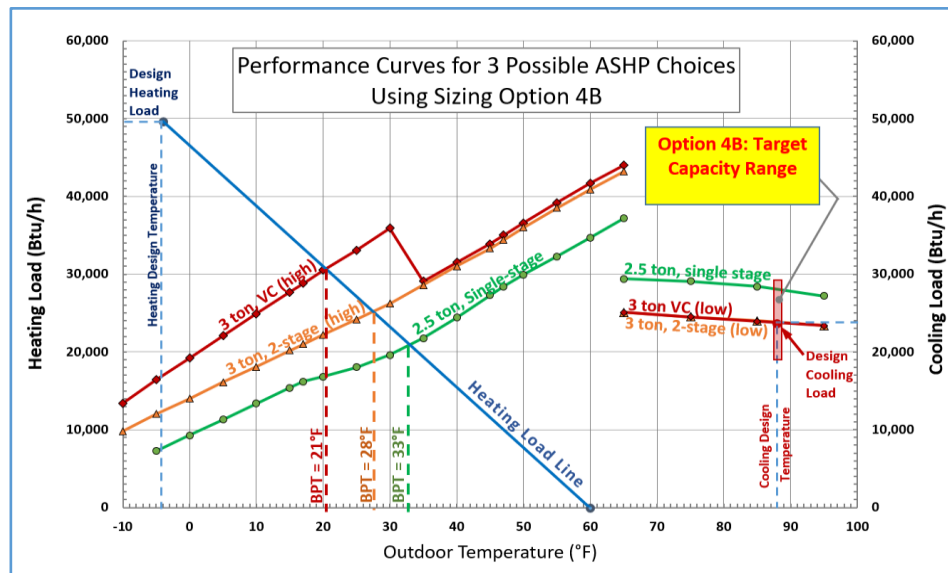
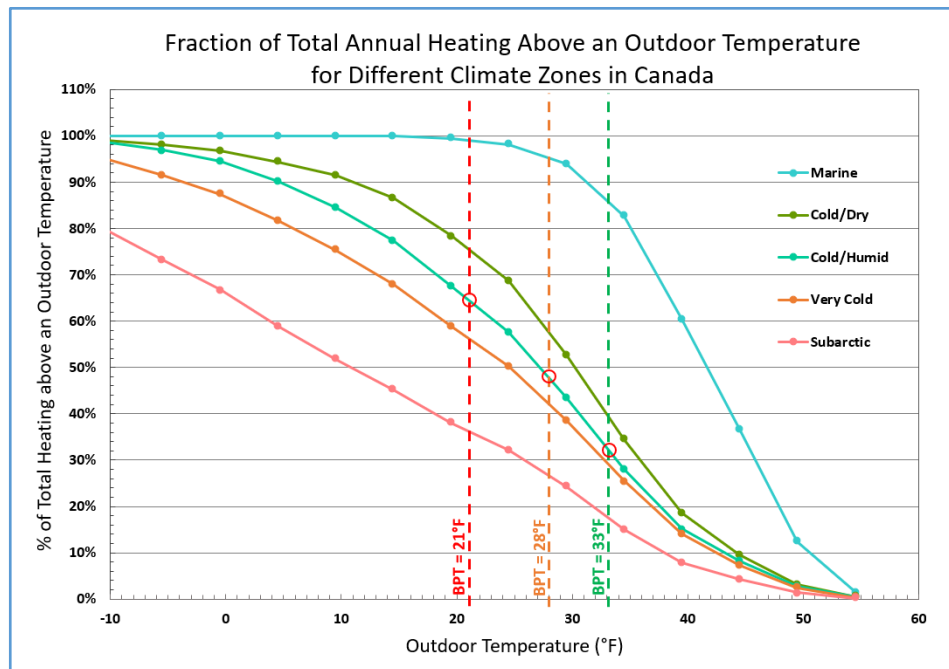

Figure 21: Performance Curves and Balance Point Temperatures for 3 Possible ASHP Choices
Figure 22: Fraction of Total Annual Heating Curves for Five Climate Zones in Canada
The thermal balance point temperature (t-BPT) can be estimated by superimposing a plot of the ASHP heating capacity(ies) curve (using information from the manufacturer's extended performance tables at different outdoor temperatures) onto the heating load line chart from Step 3 as shown in Figure 21. Use the maximum capacity information whenever it is available. The t-BPT is the temperature at which the heating load line intersects the ASHP performance curve.
- For each ASHP being compared, determine the thermal balance point temperature (t-BPT) by developing a performance curve for each ASHP and the load line for the house (or area of the house being considered) as illustrated in the example in Figure 21;
- Using the **“Total Annual Heating Fraction”** chart provided in Figure 22, determine the fraction of total heating delivered by each ASHP option above their t-BPT for the climate zone of the installation site;
The fraction of total annual heating that occurs above a given outdoor temperature is modelled for five different climate zones in Canada and is shown graphically in Figure 22.
- The fraction of total annual heating provided is indicated by the intersection of the t-BPT line with the climate-zone curve for the house location. Red circles indicate the heating fractions for the three ASHPs shown in Figure 22 in “Cold-Humid” climate zone locations.
Note that there are a number of factors that will affect the actual heating fraction compared to the value estimated using Figure 22:
Three ASHP systems (i.e., single-stage, two-stage and variable capacity models) have been short-listed using “Sizing Option B: Balanced Heating and Cooling” for a house located in the “Cold-Humid” climate zone. The heating and cooling performance curves for the three systems are shown in Figure 21 for reference. The following analysis provides estimates of the relative heating performance of each ASHP under consideration.
Using the thermal balance point temperature (t-BPT) for each system (see Figure 21), the “Fraction of Total Annual Heating” that can be delivered above the t-BPT can be estimated using the Chart in Figure 22 for the “Cold-Humid” climate zone. The results are summarized below: